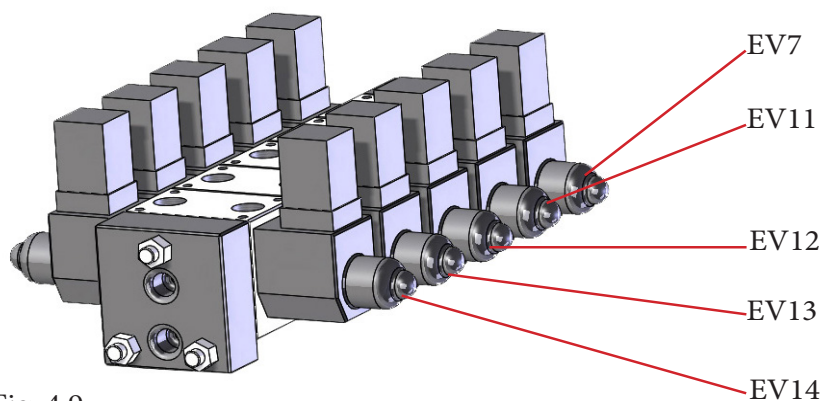

Fig. 4.9
4. Operate the manual lever of the right track forwards from the distributor (VD2) and at the same time press one of the stabilizers electrovalves caps of EV11, EV12, EV13 ed EV14, one at a time until they are completely recovered. (Fig. 4.9).